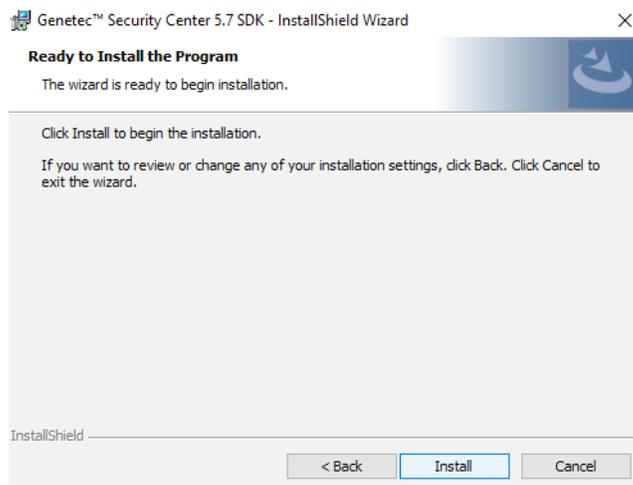

Figure 15
17. At the Ready to Install window, click Install (Figure 15).